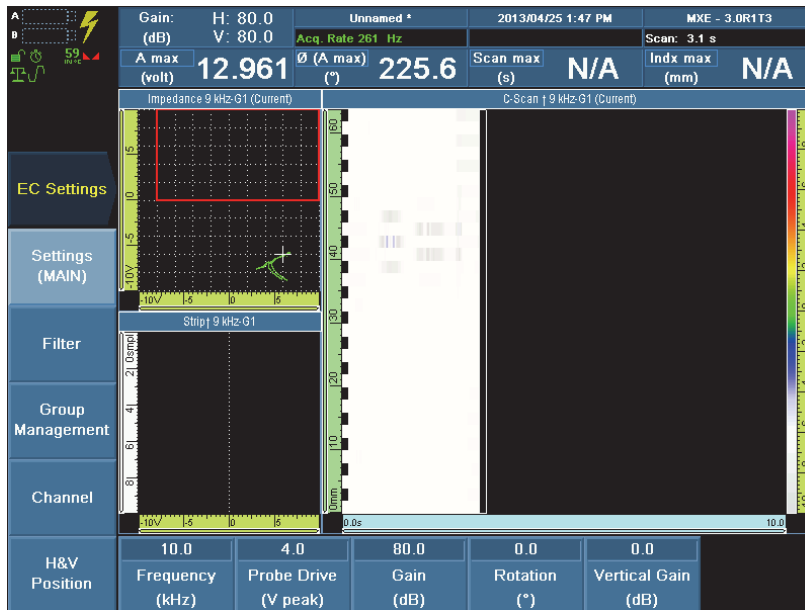

Figure 9-1 Configuring the Frequency parameter for mixing frequency 1
- c) Select **Frequency (kHz)**, set the value to provide the best detection for the sub-surface cracks, and then press the Accept key to confirm. In this example, the **Frequency (kHz)** value is set to 10.0 (see Figure 9-1 on page 130).